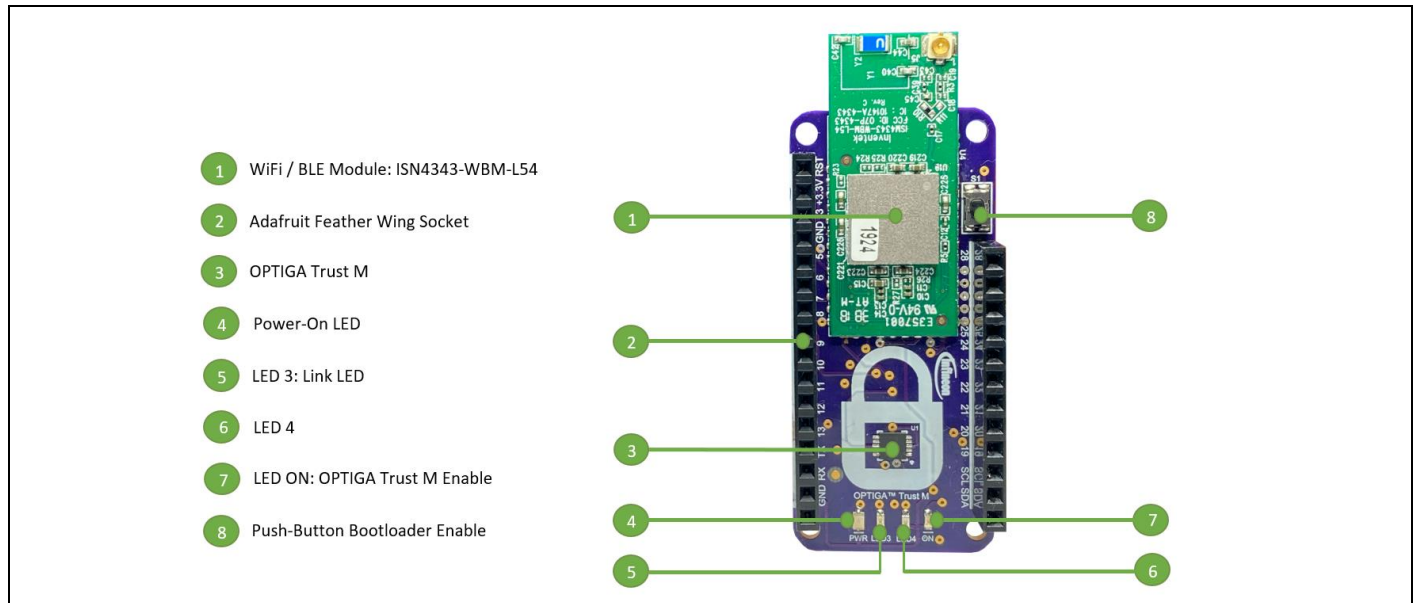

Figure 20 OPTIGA™ Trust M esWiFi Feather Wing™
- By pressing “Button Boot-Loader Enable” Figure 20